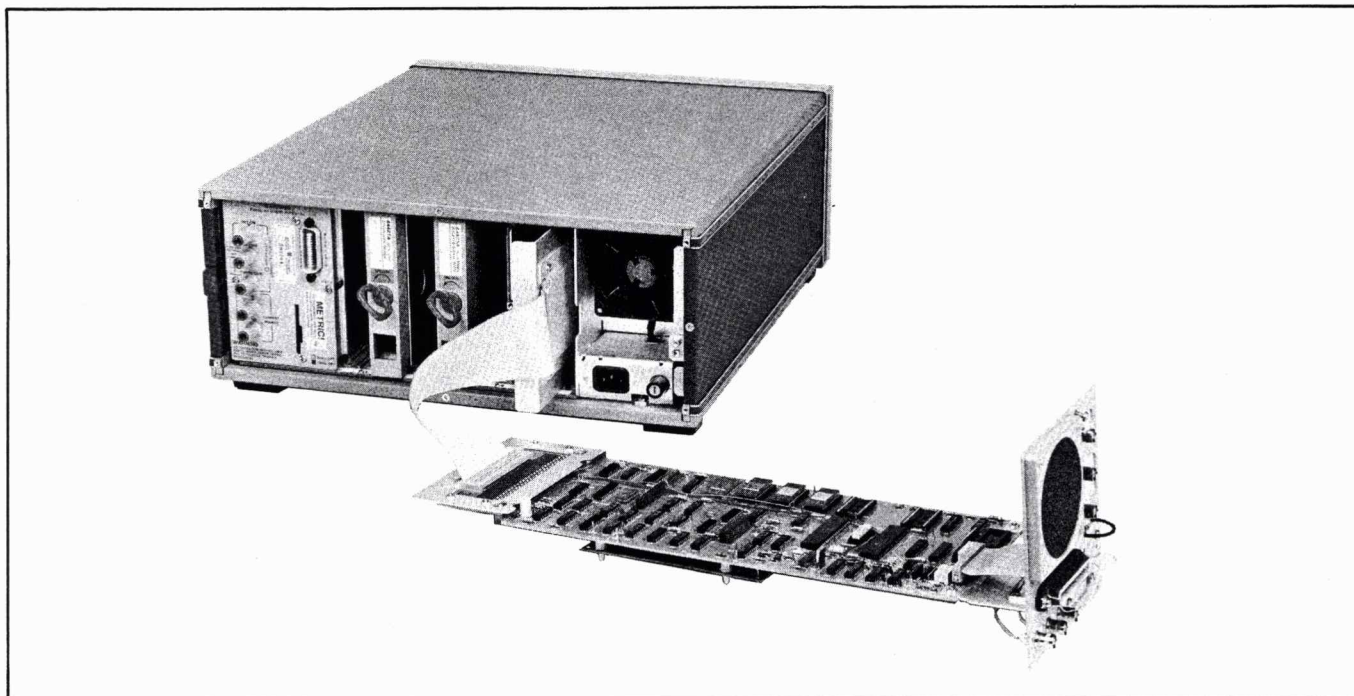

Figure 8-2. Using the Board Extender
shown in Figure 8-2. In the figure, the outguard board is used as an example on how to connect the board and extender. The same applies for the inguard controller board and plug-in options. Do the following:
1. Refer to Figure 8-2. Locate the arrow marked "CONTROLLER TIMER" on the 3497A mainframe and align the Board Extender into the corresponding slot. Then push the extender into the slot